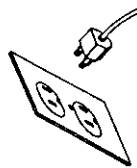

Figure 1-1
1. UNPLUG garage door opener. (Figure 1-1)